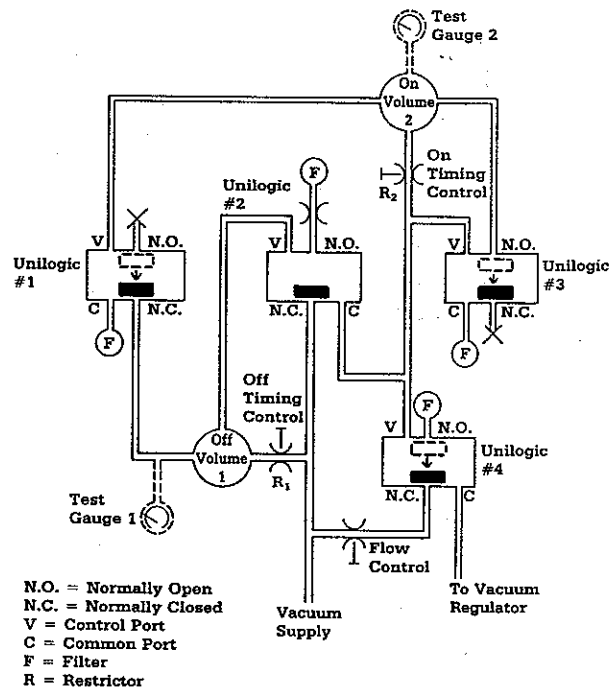

Figure 7
5. When the "ON" reservoir vacuum is depleted to 5-8 in Hg Unilogic Gate #1 returns to its rest state, closing the "OFF" volume reservoir circuit. See Figure 7.